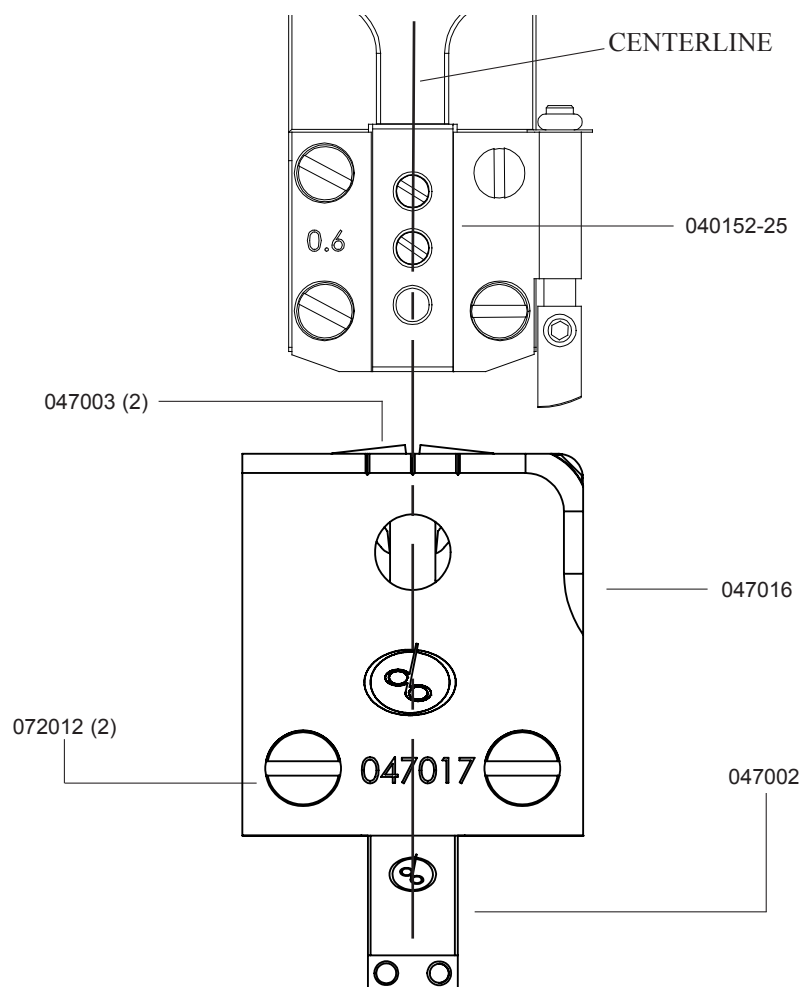

Figure 4 - Aligning Clincher Plate Assembly
Secure and align the Clincher Plate Assembly (047016) to the Stitcher Machine by first loosening the two (2) Cheese Head Machine Screws (072012) in the supplied Clincher Plate Assembly until the Clincher Mounting Bar (047014) is free. Slide the Mounting Bar into the rail of the Stitcher Machine and align the Clincher Slide (047002) in the corresponding rail on the Stitcher. Secure the Clincher Plate Assembly to the Mounting Bar by tightening the same two (2) Screws previously loosened. But before completely tightening the Screws, align the Clincher Points (047003), within the Clincher Plate Assembly, directly under the Driver (040152-25). Refer to **Figure 4** for part number reference.